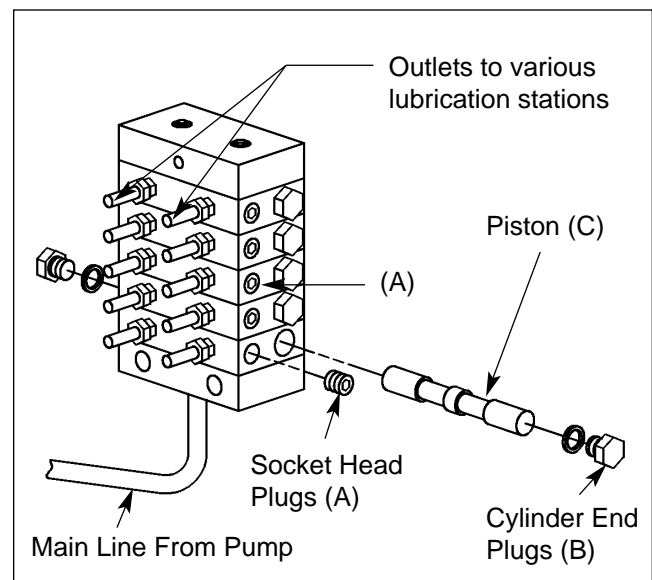

Figure 4D. Distribution and metering block assembly.
1. Remove socket head test plugs "A," (See Figure 4D) closest to the outlet side of each section. If oil surges from one test port, the fault is (probably) beyond the outlet side of the section which spurts oil.